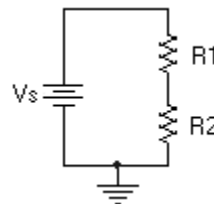

Fig 2-2
2. Using the protoboard, build the voltage divider shown in Fig 2-2. Keep V_s at 9V, let $R_1 = 1000\Omega$ (1k Ω) and let $R_2 = 560\Omega$.